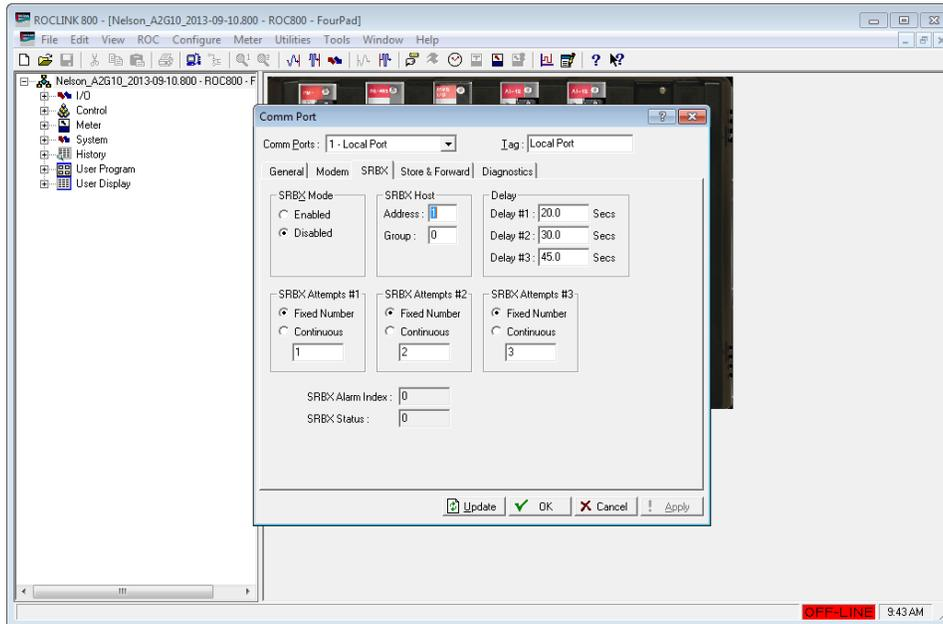

Figure 2.
6. Referring to Figure 2, click the SRBX tab.